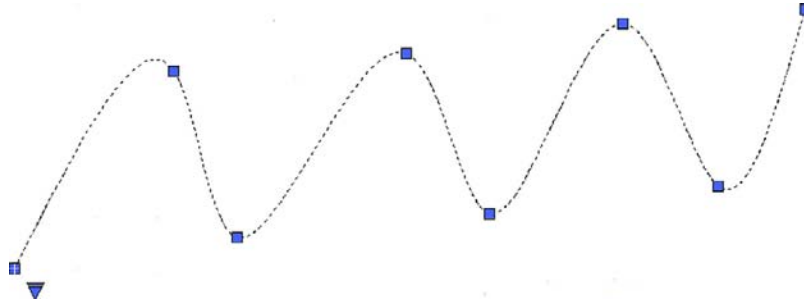

FIGURE 11.15
- Step 4.** Click on another point somewhere on the screen, in an up and down wave pattern, as seen in Figure 11.15.
- Step 5.** Click on a few more points in a similar wave pattern. AutoCAD keeps saying the same thing as in Step 4. Continue clicking several more times (refer again to Figure 11.15). When done, simply press Enter.
This is your basic “out of the box” spline. Notice how, as you click points, AutoCAD fits a smooth curve that best approximates the path. Each grip in Figure 11.15 represents a click of the mouse, a control point. You can manipulate the position of these grip points in the standard manner, with the Spline following suit. This makes the Spline a very flexible tool, adjustable to the exact demands of the designer. Try activating the grips and moving them around.